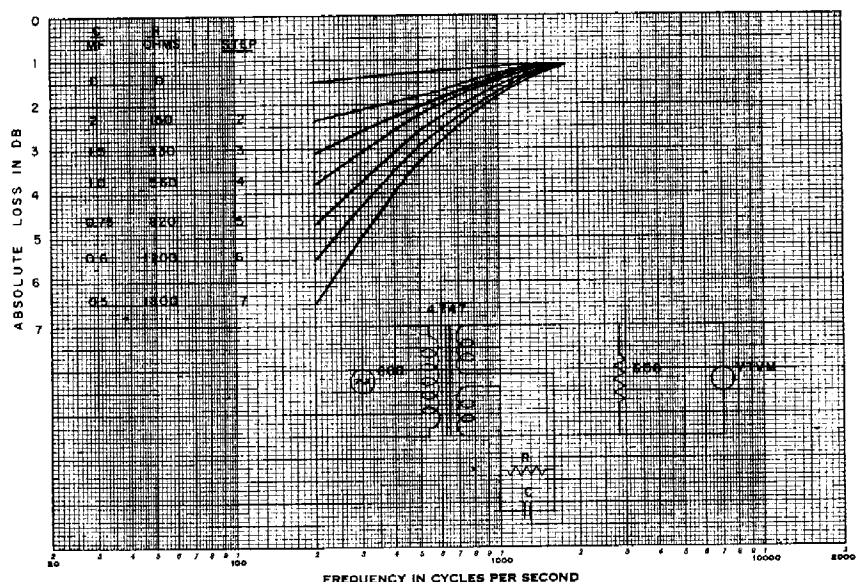

Figure 3
frequency loss, e.g., 1,000 cps relative to the resonant frequency loss; this is indicated in Figure #2 which is the H44 condition with the resonance at 6,100 cps. The approximate values of resistance required for different facility lengths are indicated. The low frequency equalizing networks are designed to furnish six (6) steps of increasing loss to offset the decreased transmission at the lower frequencies. Figure 3 indicates the absolute loss introduced by the transformer and L.F. correction networks. Actually, the 12912 Equalizer is marked in steps from 1 to 7. Position #1 is a condition of no capacity or resistance correction and represents the low frequency loss characteristic of the transformer.